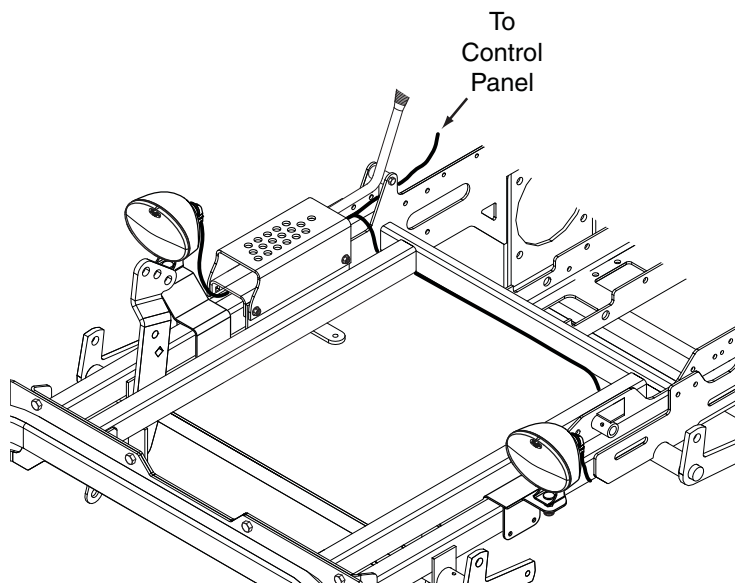

Figure 4. Route Wire Harness and Connect to Lights
7. Route the light kit wire harness as shown and connect to the LH and RH light assemblies. See Figure 4.